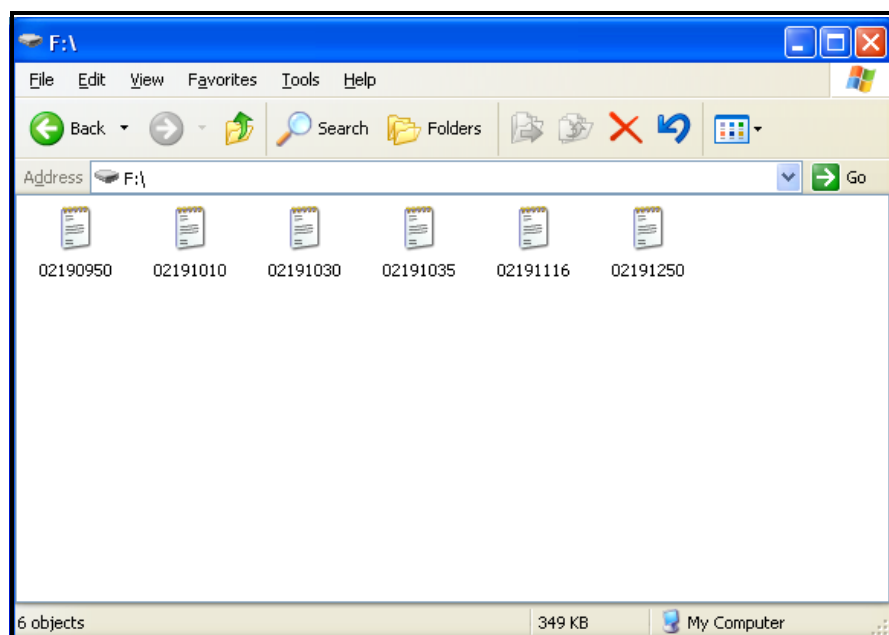

Figure 58: List of Log Files
2. Click on Removable Disk and a screen similar to Figure 58 on page 101 appears.